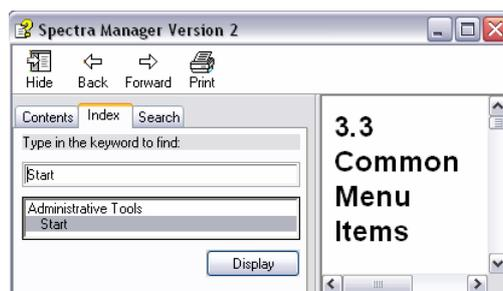

Figure. 2.12 The [Index] window
- (2) Select the [Start] menu, and click the <Display> button in Fig. 2.12.
- (3) Selecting the [Administrative Tools] menu, for example, results in comments about it being displayed on the right side of the [Index] window (see Fig. 2.12).
- (4) Click the [Search] tab and enter a word into the column, to find the help topics concerning the word.
- (5) Right-click the icon, [Hide], [Back], [Forward], or [Print] of Fig. 2.11 or Fig. 2.12 and select the [Open all] menu.
- (6) Right-clicking the icon, [Hide], [Back], [Forward], or [Print] of Fig. 2.11 or Fig. 2.12 and select the [Close all] menu and all of the topics will be displayed.
- (7) Click the [Hide] icon of Fig. 2.11 (or Fig. 2.12).
The left side of Fig. 2.11 (or Fig.2.12) is hidden.
- (8) Click the [Print] icon of Fig. 2.11 (or Fig. 2.12).
The comments displayed on the right side of Fig. 2.11 (or Fig. 2.12) will be printed out. The [Print] function can also be performed by right-clicking the icon, [Hide], [Back], [Forward], or [Print] of Fig. 2.11 (or Fig. 2.12) and then selecting the [Print...] menu.